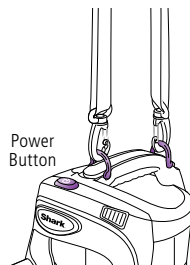

Fig. 5
- 4 Attach the shoulder strap onto the hooks on the handle of the Canister Vac. (**fig. 5**)
- 12 While holding the Canister Vac by the handle, press down on the power button to turn the Canister Vac on and begin vacuuming. Press down again to turn the vacuum off. (**fig. 5**)